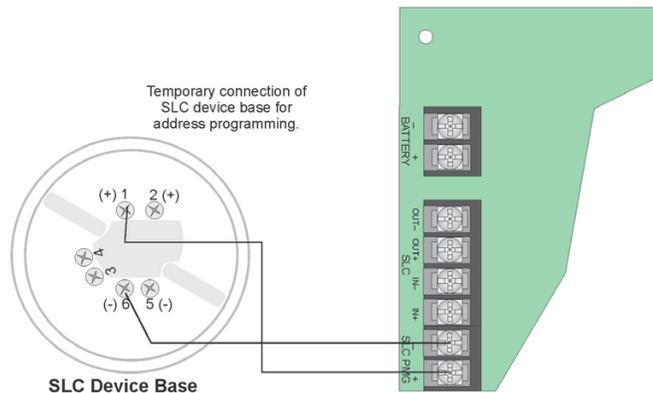

Figure 7.6 Temporary Connection of Detector Base to Panel for Addressing
- Connect a detector base temporarily to the programming terminals as shown in Figure 7.6. (You can use the same base for each detector.)